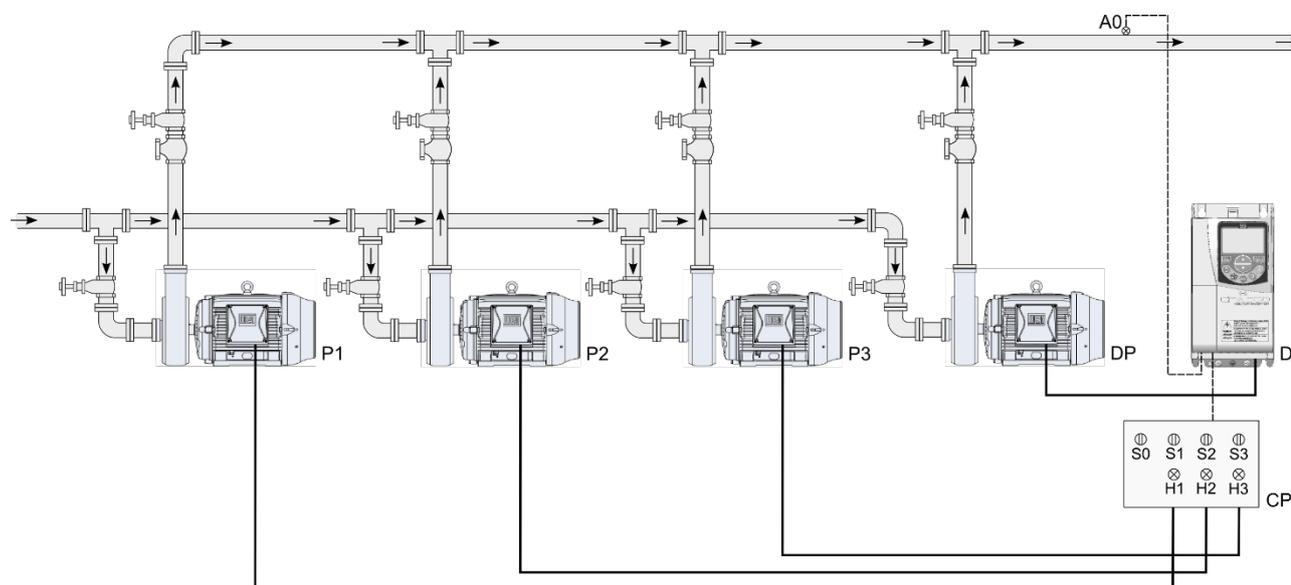

Figure 2.15 – Pump Genius Multipump application with fixed control and four pumps in parallel
The figure 2.15 presents a typical system with four pumps in parallel and control setpoint via HMI basically composed of:
The pumps 1 to 3 can be driven by contactors (direct on line or star delta start), softstater, intelligent relays, etc. The signals H1, H2 and H3 are not necessary for the operation of the Pump Genius Multipump with fixed control, 3 pumps in parallel and control setpoint via HMI, because they only serve to indicate the operating condition of the pumps on the command panel (CP). In the figure 2.15, the signals H1, H2 and H3 come from auxiliary contacts of contactors K1, K2 and K3 which start the pumps 1, 2 and 3.